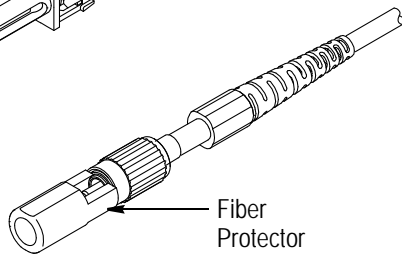

Figure 4
1. Remove the protective cover and attach the appropriate fiber protector, as shown in Figure 4, for buffer or jumper connector subassemblies. Fiber protectors are not required for use with anaerobic adhesive or retaining compound.